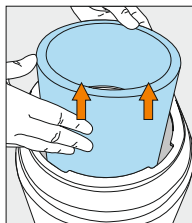
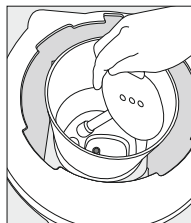

Figure 34
Figure 35
4. Using fingers of both hands loosen and remove the insulation jacket covering the plastic reservoir from the cooler opening (Figure 34). (Note: On Ho t& Cold models, after step 4 unscrew the round plastic one piece baffle (Figure 35))